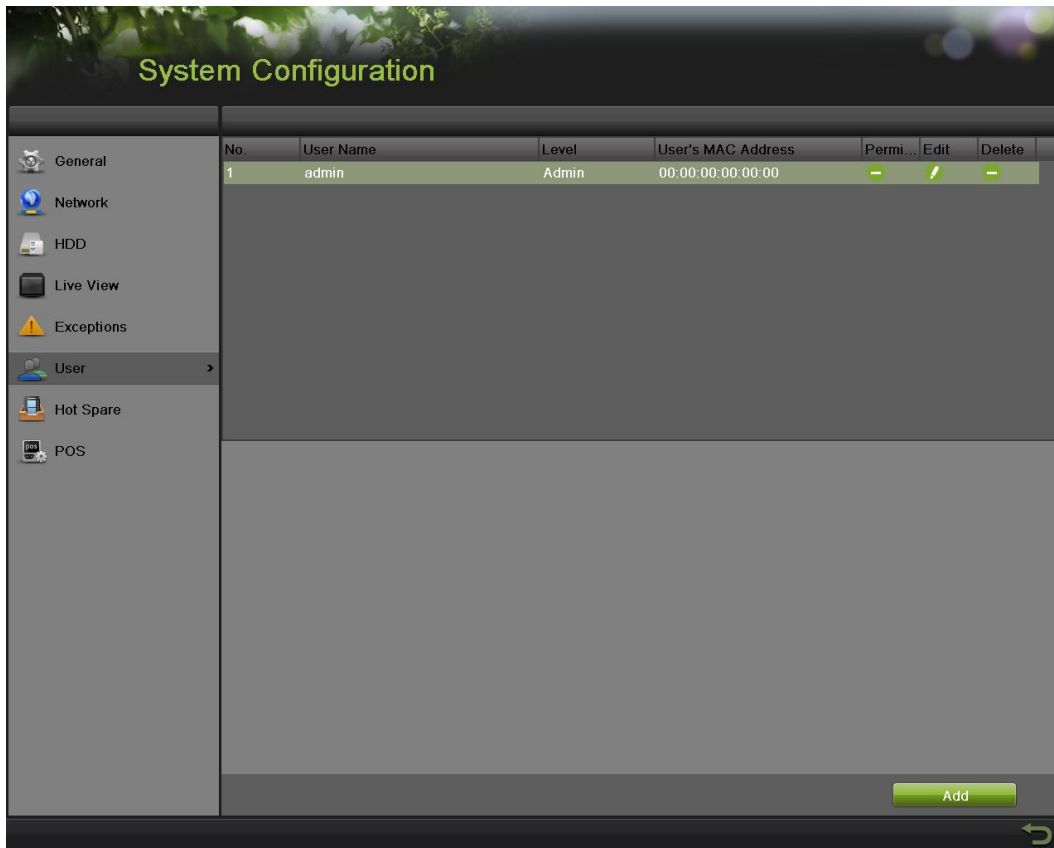

Figure 79 User Settings Menu
You can change the default password by going to Menu > System Configuration > User, as shown in Figure 79.
1. On the User tab shown in Figure 79, click Add to enter Add User interface, as shown in Figure 81.
1. Enter the User menu, shown in Figure 79 by going to Menu > System Configuration > User.